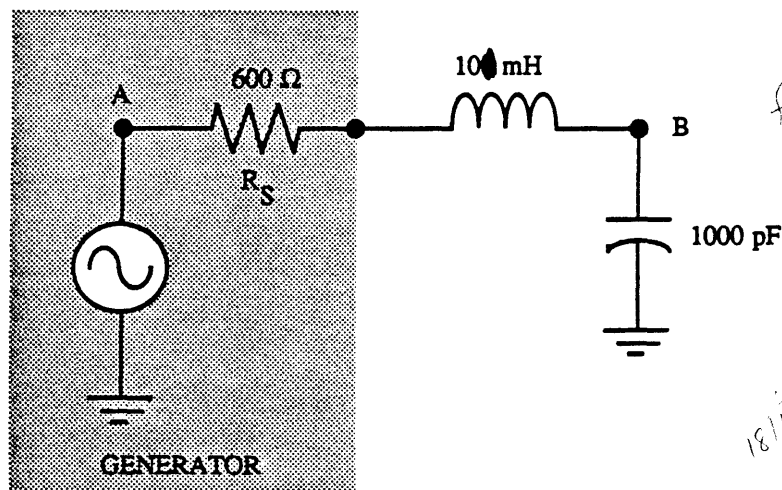

Figure 4.4 - Second frequency response network
- (3) Using the scope, record the amplitude and phase shift for the frequencies from 10 Hz to 100 KHz listed in Table 4.1. Adjust the vertical sensitivity as necessary to make accurate amplitude measurements and try to measure the phase shift to within 9 degrees (one minor division). You should use BRIGHT LINE OFF for your low frequency measurements or else the scope display will not be stable.
- (4) Repeat steps 2 and 3 for the circuit of Fig. 4.4. You may start your measurements at 100 Hz. Record your results in Table 4.2.
2. (a) What is the transfer function of the circuit shown in Figure 4.4?